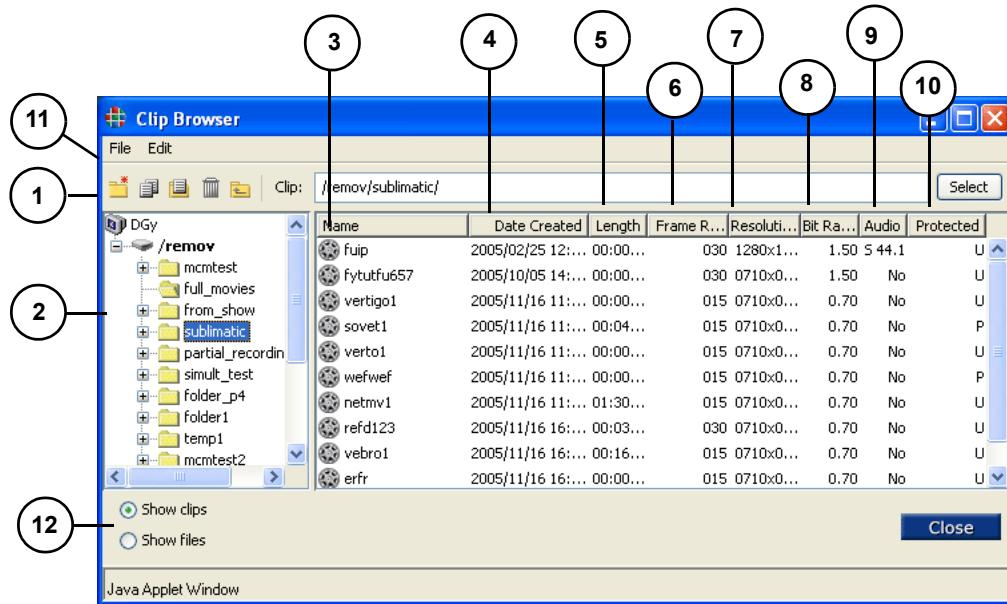

Figure 3-7. Clip Browser Menu (sample)
- ~ Click on the name field of the desired clip (Figure 3-7)
The Clip Browser tool bar is located at the top of the Clip Browser page (see Figure 3-7). The Toolbar provides access to the File and Edit menus.